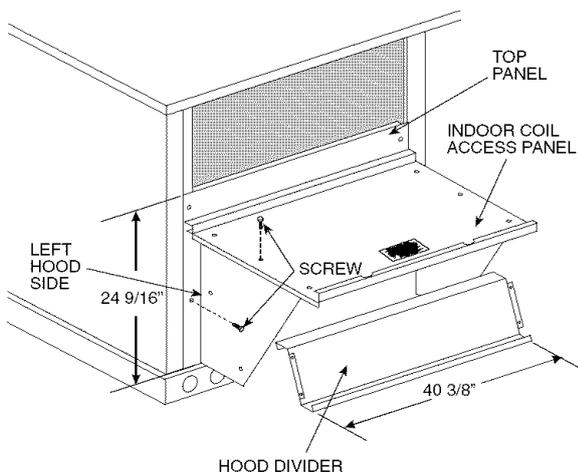

Fig. 29 — Outdoor-Air Hood Construction
4. Swing out indoor coil access panel and insert the hood sides under the panel (hood top). Use the screws provided to attach the hood sides to the hood top. Use screws provided to attach the hood sides to the unit. See Fig. 29.
6. Insert the hood divider between the hood sides. See Fig. 29 and 30. Secure hood divider with 2 screws on each hood side. The hood divider is also used as the bottom filter rack for the aluminum filter.